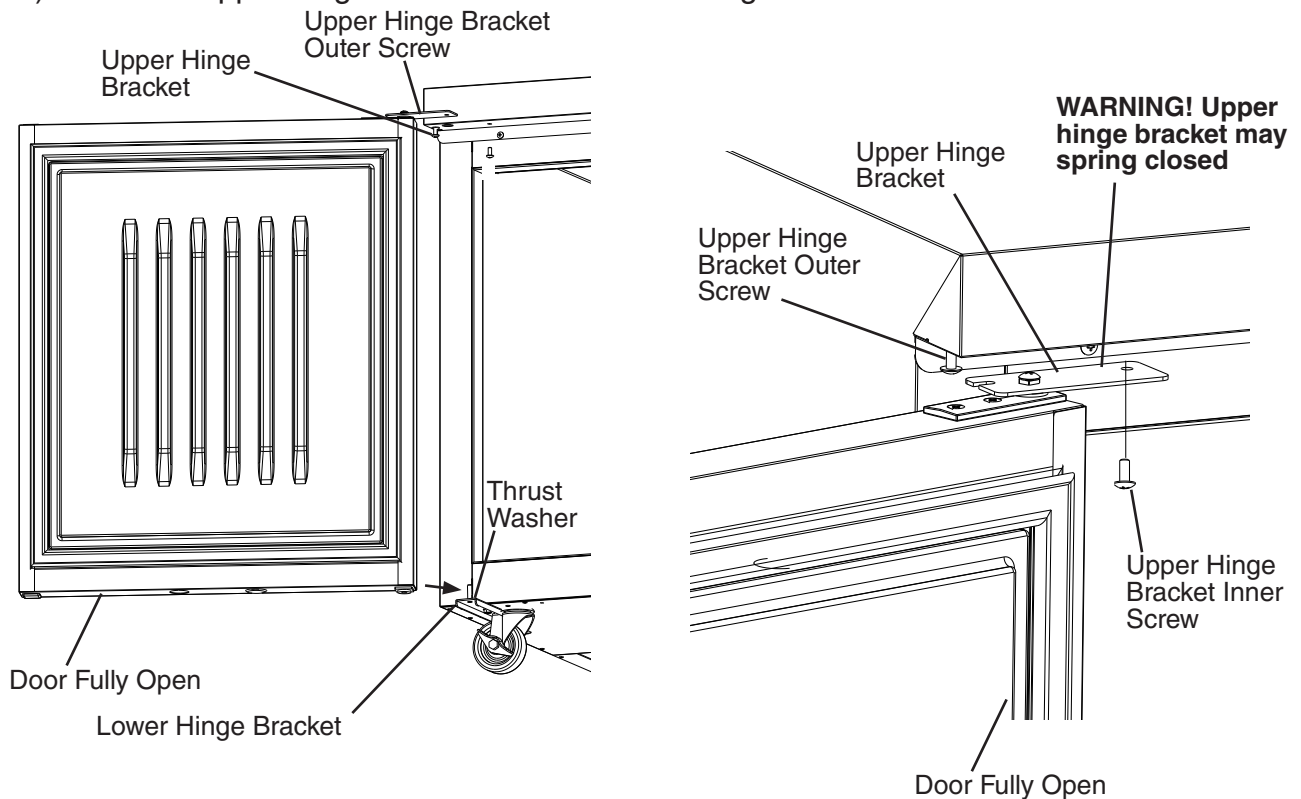

Fig. 17
- 14) Be sure the lower hinge bracket thrust washer is in place, then place the door on the lower hinge bracket in the fully open position. Slide the door upper hinge bracket outer slot onto the upper hinge bracket outer screw. See Fig. 17.